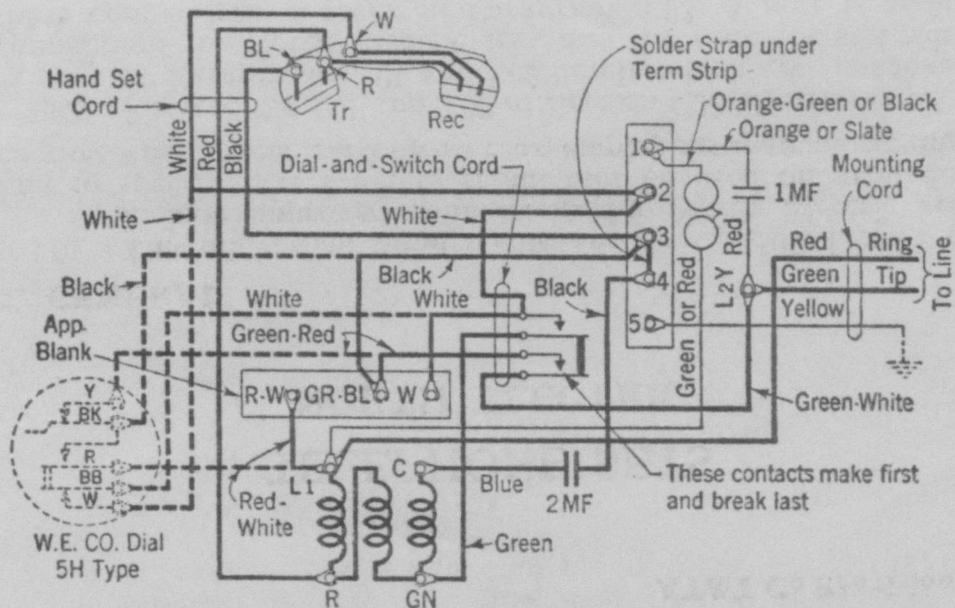

Fig. 1
3.01 The connections for North Electric telephone sets are shown in Fig. 1 herein which replaces Fig. 1 of the section. The new connections should be provided for all new installations, reinstallations and additions of dials to the sets. Likewise whenever customer complaints of dial or switch clicks
3.02 The diagram in Fig. 1 shows the line and ringer connections are for bridged ringing lines. Line and ringer connections for bridged and grounded ringing lines of the classes of service for which the set is used are given in Table 1.